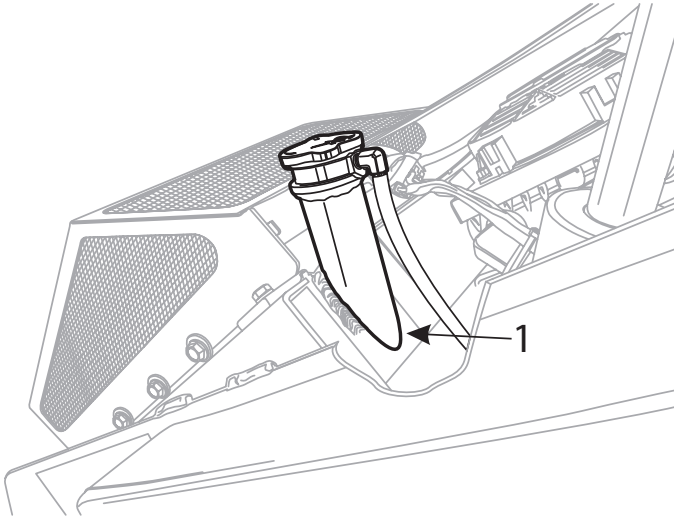

Figure 4-27 Radiator Fill Level
- e. Close the petcock and refill the radiator with a 50-50 mix of radiator coolant and water, according to the specifications in the Engine Manual. Make sure to fill the radiator only to the bottom of filler neck (Item 1, Figure 4-27).